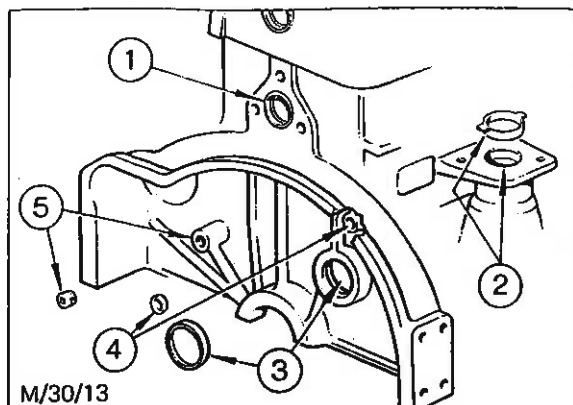

Fig. 44 - Cylinder Block Blanking Plugs
4. On the oil gallery core plug (rear), the tachometer drive blanking plug and the cylinder block rear water jacket core plug (4 cylinder engines only) apply specified sealer around the plug bore and drive the plug firmly home - see Fig. 44.